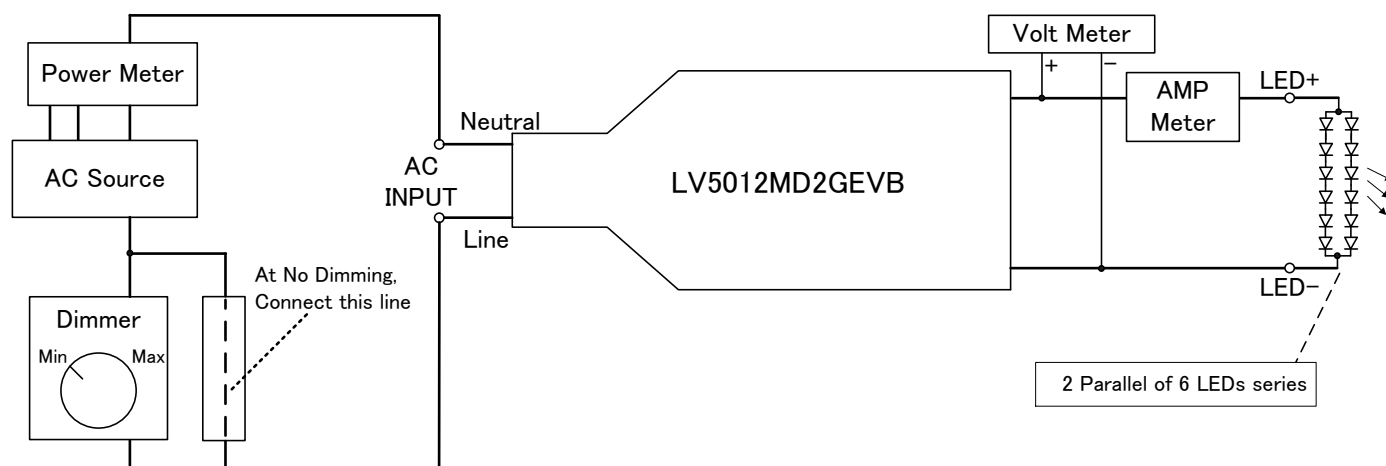

Figure1. LV5012MD2GEVB Recommended Test Set Up
1. Connect LV5012MD2GEVB like upper Figure1. An external LED load must be used to start up the EVB.